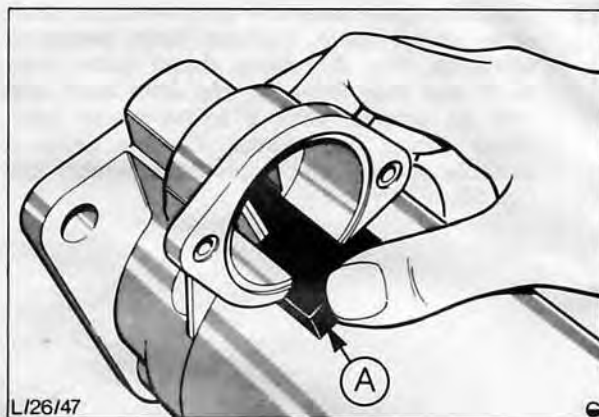

Fig. 92. Rubber block location between solenoid mounting bracket and yoke
18. Slide sponge rubber block between solenoid mounting bracket and yoke, Fig. 92.